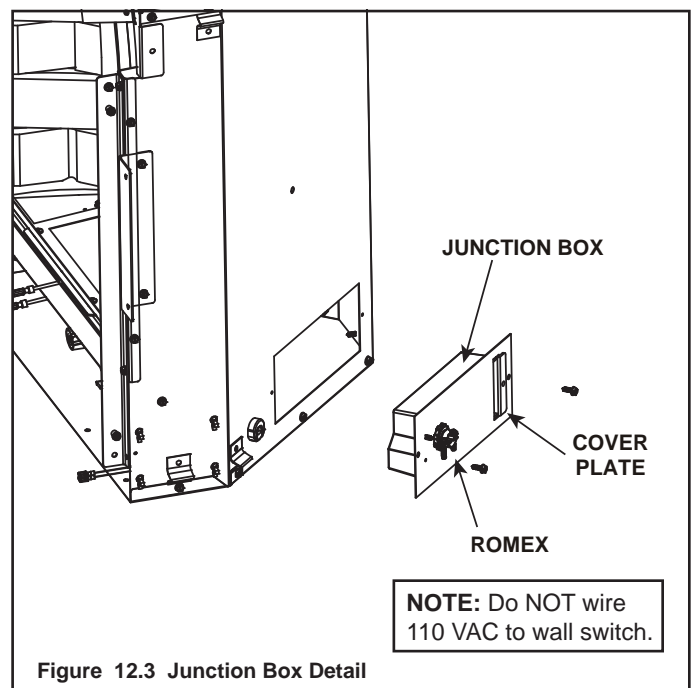

Figure 12.3 Junction Box Detail
- Remove the junction box assembly located on the outer shell - right side. See Figure 12.3.